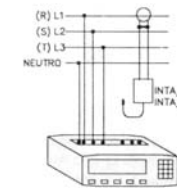

Fig. 3.6.1
1) Connect the C.T. secondary winding to the INTA/5 or INTA/1 interface (fig. 3.6.1).